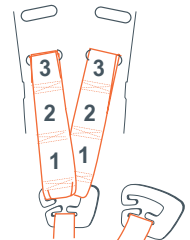

Fig. 38c
2. Fasten harness end loop to splitter plate. Ensure the harness strap ends are fully hooked on the splitter plate. Both sides must be threaded in the same position (Fig. 38c).